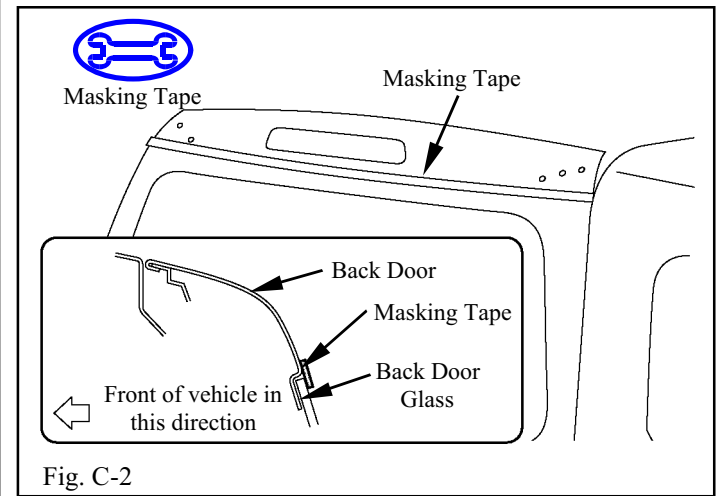

Fig. C-2
5. Use masking tape to cover the gap between the back door Wind Deflector mounting face and back door glass, to prevent cutting chips from entering the gap while drilling. (Fig. C-2)